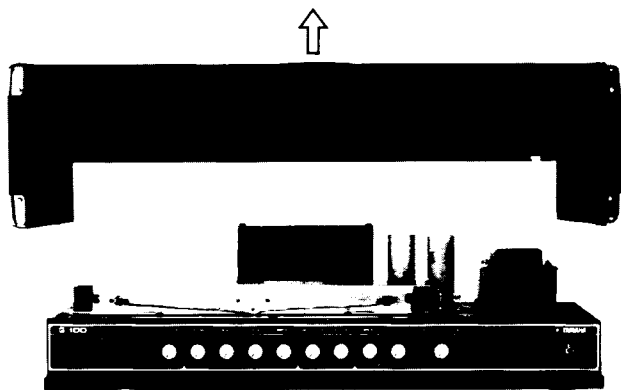

Fig. 2
2. Lift off the top case as shown in Figure 2.